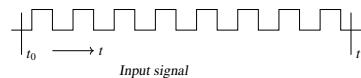

Fig. 5.20
20. Consider a 4-bit counter constructed out of four flip-flops. It is formed by connecting the J and K inputs to logic high and feeding the Q output to the clock input of the following flip-flop (see Fig. 5.20). The input signal to the counter is a series of square pulses and the change of state is triggered by the falling edge. At time $t=t_0$ the outputs are in logic low state ($Q_0 = Q_1 = Q_2 = Q_3 = 0$). Then at $t=t_1$, the logic state of the outputs is (GATE-PH2020,30)